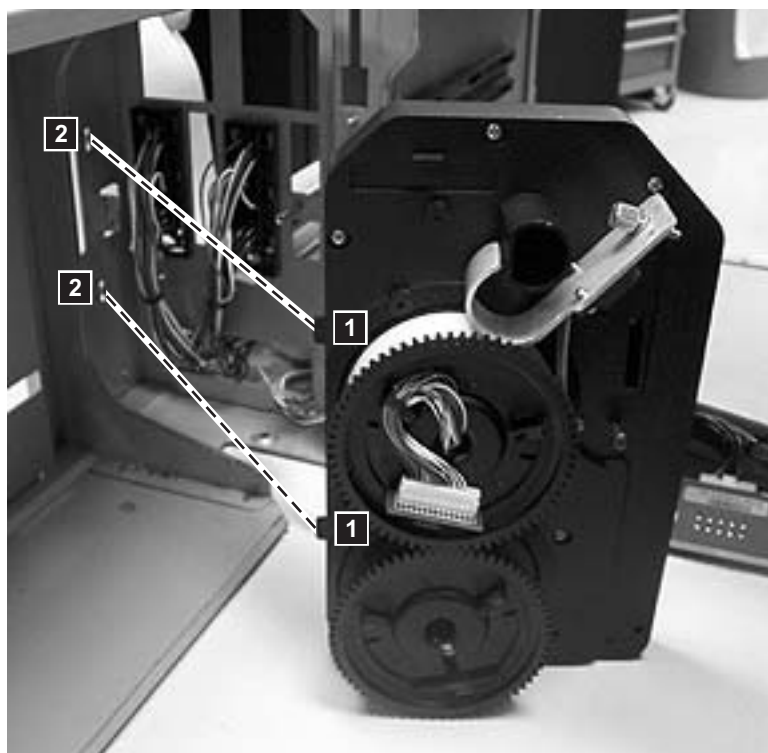

Figure 8-104. Cable Spool Assembly tabs
2. Carefully insert the plastic tabs (**1** in Figure 8-104 on page 8-96) on the Cable Spool Assembly into the slots (**2** in Figure 8-104 on page 8-96) in the enclosure sidewall.